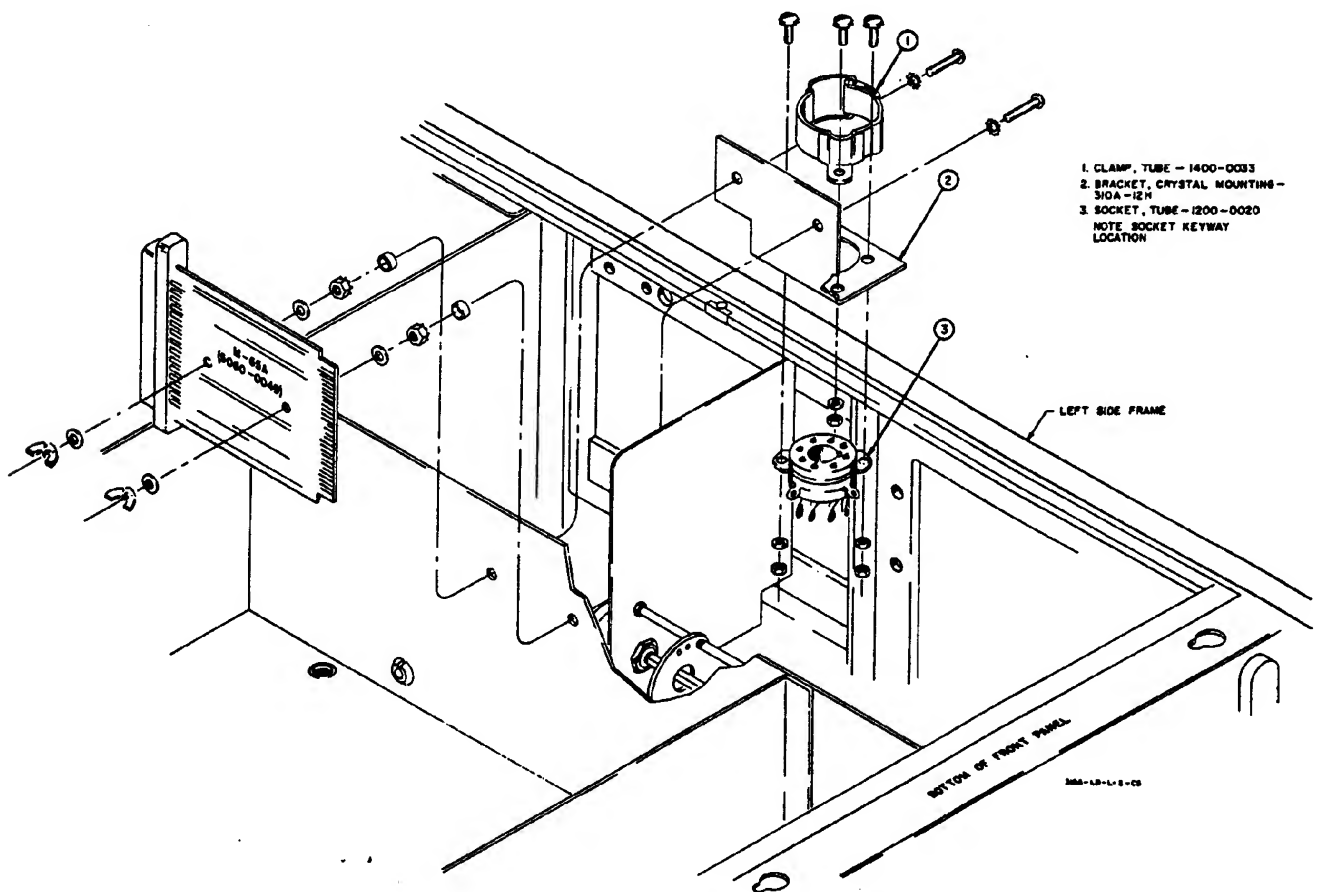

Figure 3. Model 310A, Crystal Socket Assembly
10. Mount the tube socket and the tube clamp on the crystal mounting bracket as shown in Figure 3.
13. Remove the extender board assembly, M-65A (new Stock No. 5060-0049) shown in Figure 3. Retain the board and the mounting hardware.
14. Using the hardware removed in step 13, mount the crystal socket assembly bracket to the chassis as shown in Figure 3.